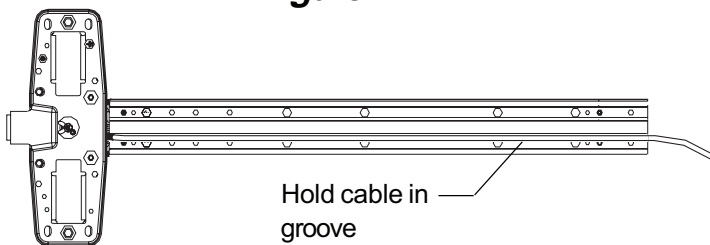

Figure 7-3
7.4. Place E996 cable in groove on bottom of baseplate (Figure 7-3).